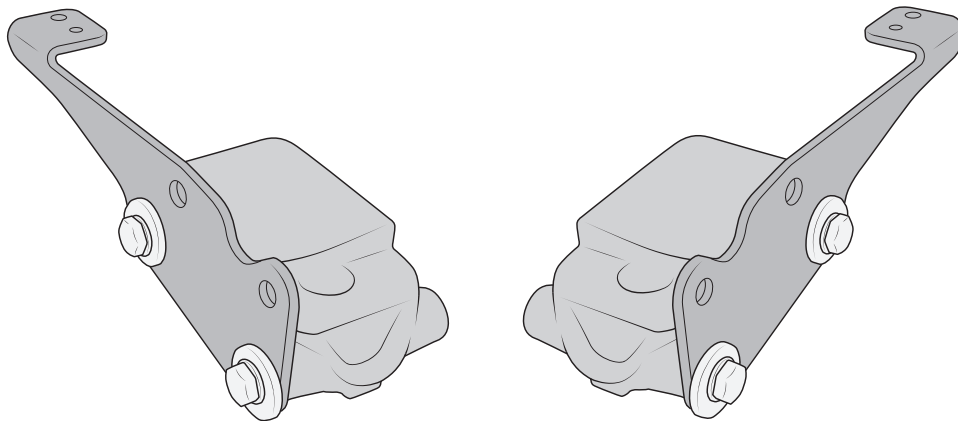

Figure 25
- a. Pre-assemble the brake line/bump stop brackets to the bump stops as shown (fig. 25). Only snug bolts at this time, you will need movement to adjust position on vehicle.